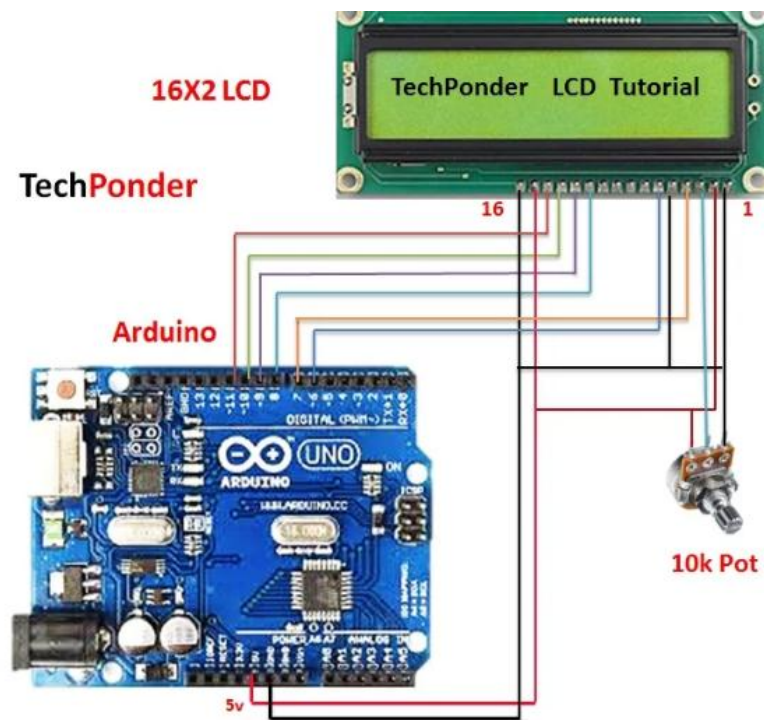

Figure 2 Circuit diagram for LCD display
- First connect all the pins of the LCD with breadboard and then connect with Arduino board through jumper wire as per circuit diagram shown in Figure 2.
- Then, connect potentiometer (10k Ω) as shown in Figure 2.